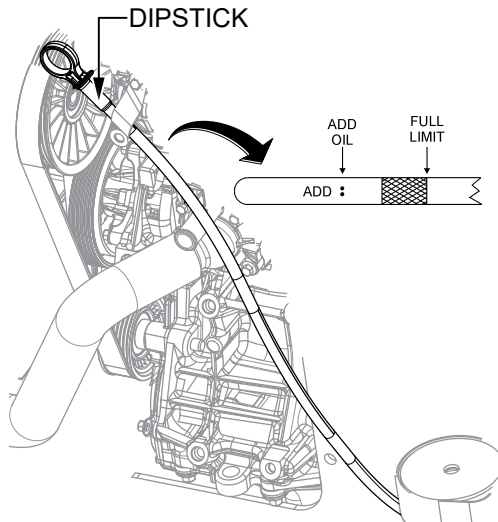

Figure 21. Engine Oil Dipstick
2. Pull the engine oil dipstick (Figure 21) out of its holder and wipe it with a clean rag.
4. Determine if engine oil is low. Oil should be between the upper and lower marks (Figure 21) on the dipstick.